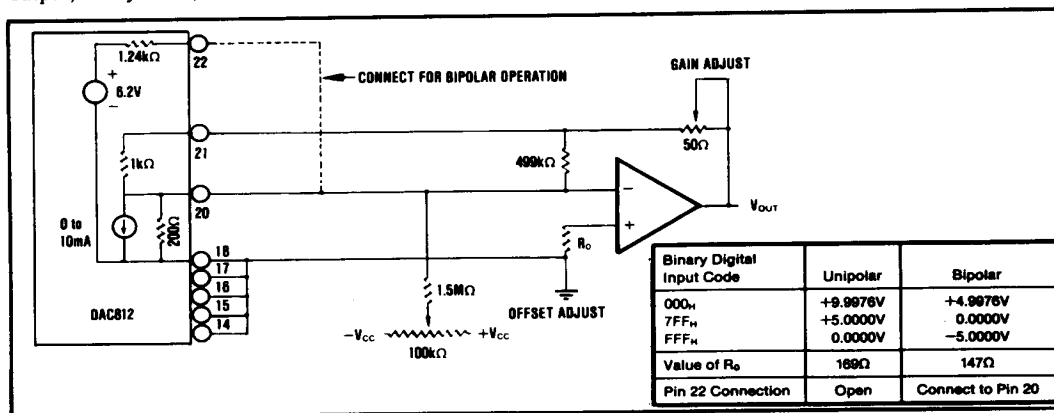
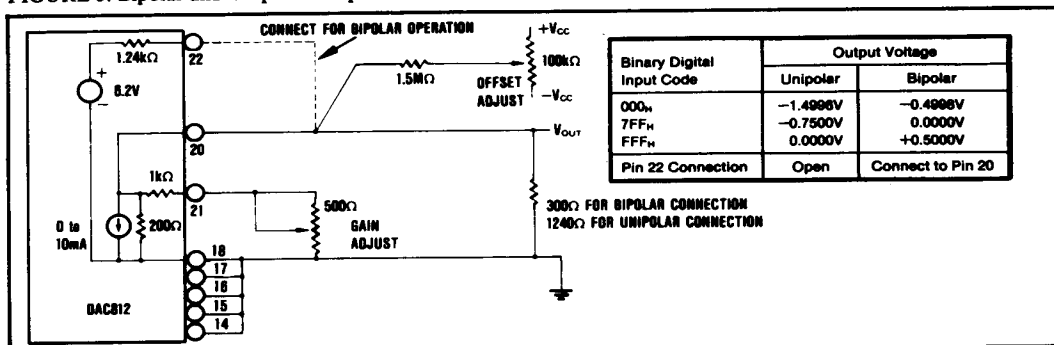
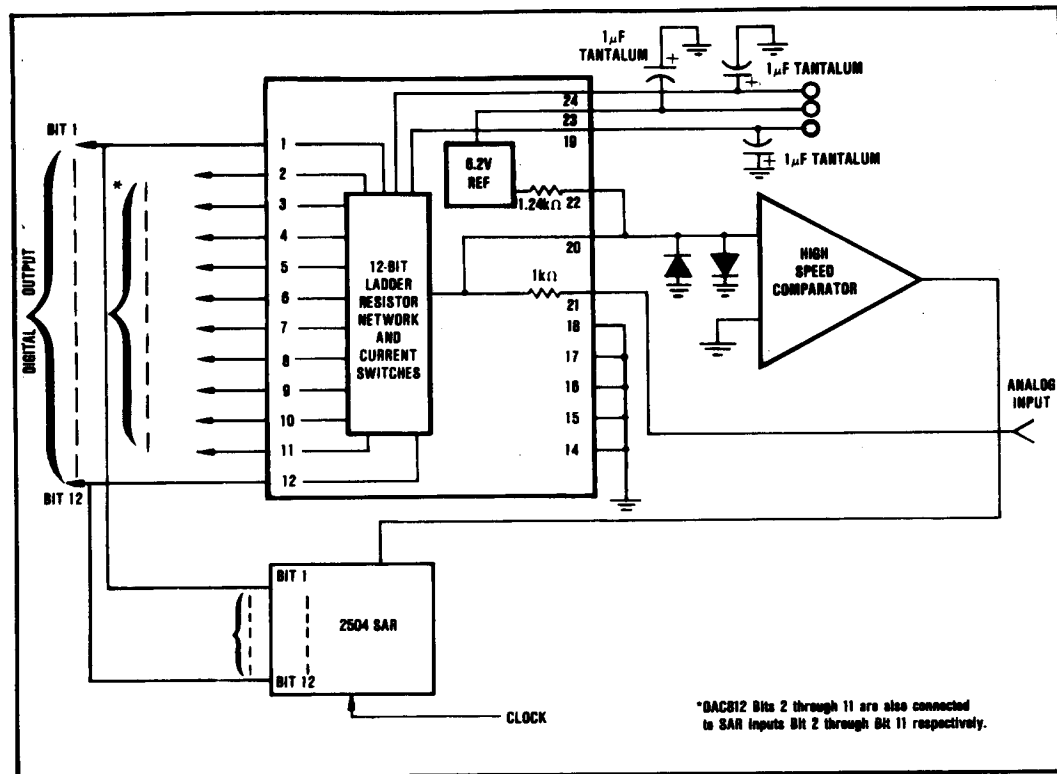

FIGURE 5. Bipolar and Unipolar Output Connections with External Op Amp.
FIGURE 6. Bipolar and Unipolar Output Connection with Resistor Load Only.
FIGURE 7. DAC812 Used in a Fast A/D Converter.
NOTES: (1) FSR is full-scale range. (2) Adjustable to zero with external potentiometer. Gain error is specified for unadjusted operation using internal resistor network. See Figure 5 and Figure 6.
Figure 5 shows the DAC812 connected to an external op amp in unipolar and bipolar modes. When the op amp is a Burr-Brown model OPA600 it is possible to achieve settling times to 0.1% accuracy in 150nsec. Output accuracy and linearity specifications are given when connected to an external op amp.
For highest speed operation, the DAC812 should be used without an external op amp. Figure 6 shows how to connect the DAC812 for bipolar and unipolar operation. Figure 7 illustrates how to connect the DAC812 to construct a fast A/D converter.